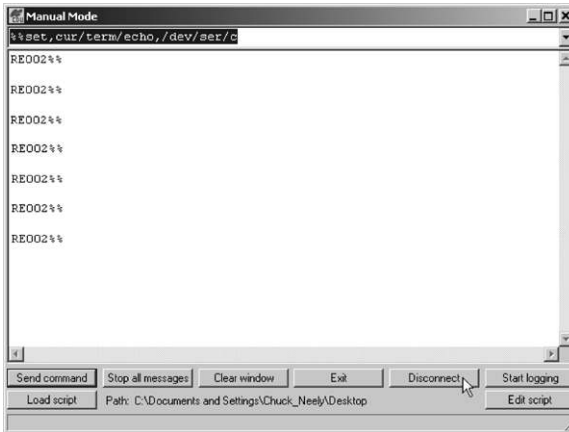

Figure 2-20. Manual Mode Command Responses
- Write each of the following commands, pressing **Enter** (or clicking **Send command**) after each command (Figure 2-20 on page 2-21).
The Manual Mode screen will show RE002%% in response to each of these commands. When finished, you should have seven responses (Figure 2-20 on page 2-21).
4. Click **Disconnect** (Figure 2-20).